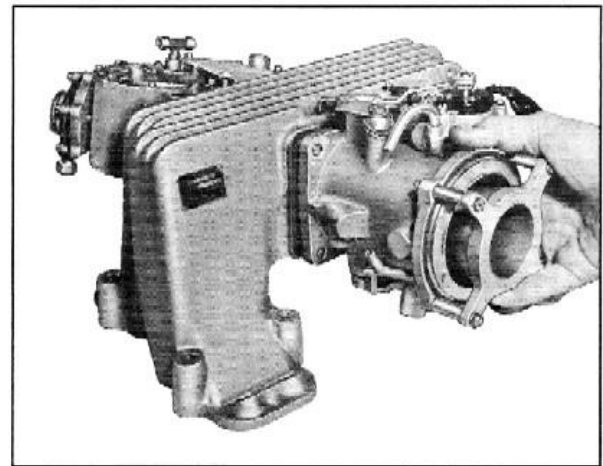

Fig. 11 Removing Air Meter
2. Remove four nuts and lock washers securing air meter to the intake manifold and remove the air meter assembly and gasket, Fig. 11.